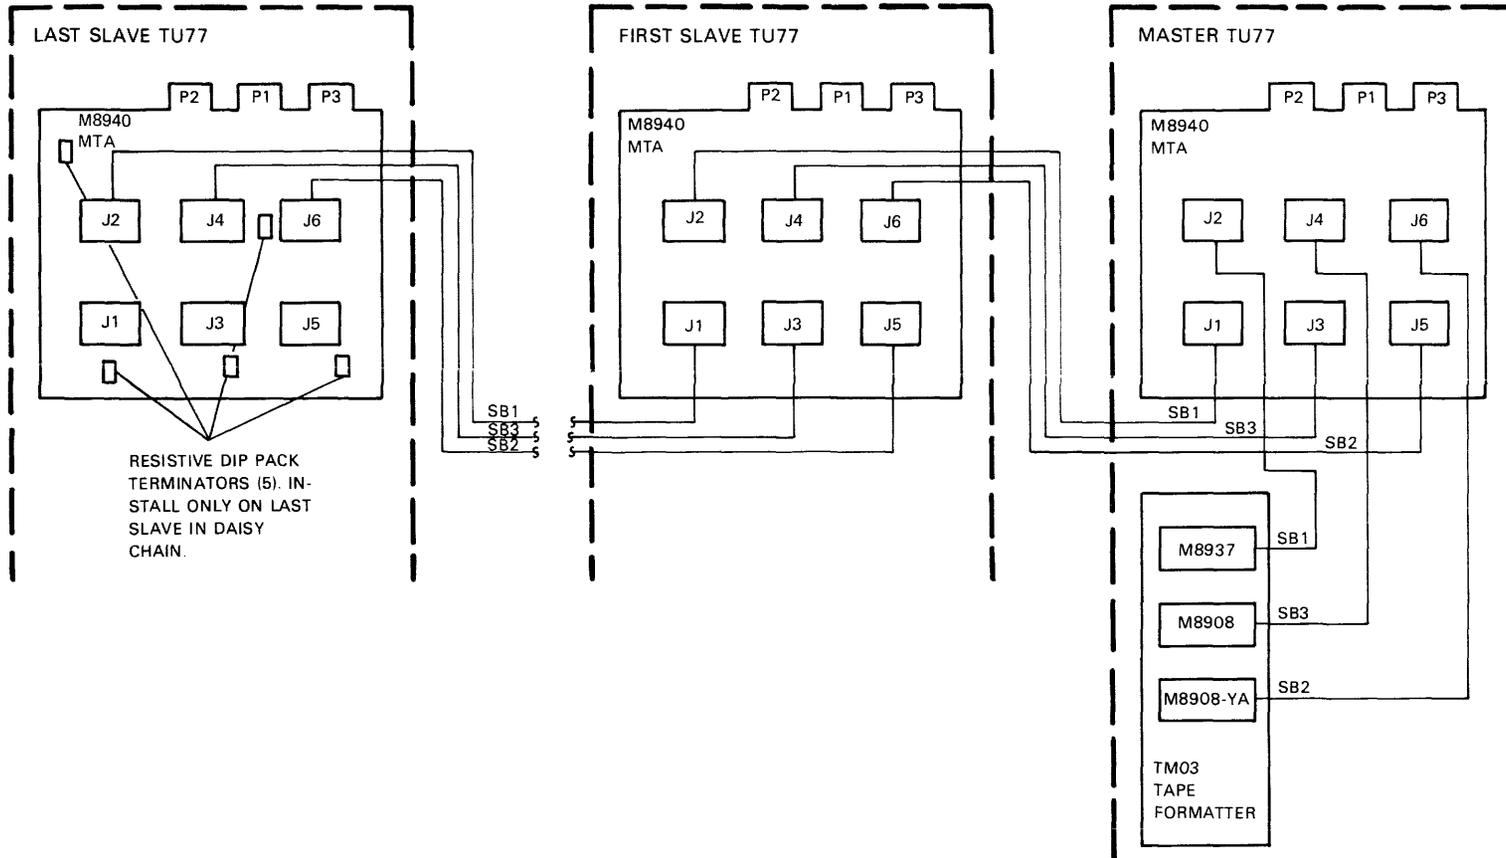
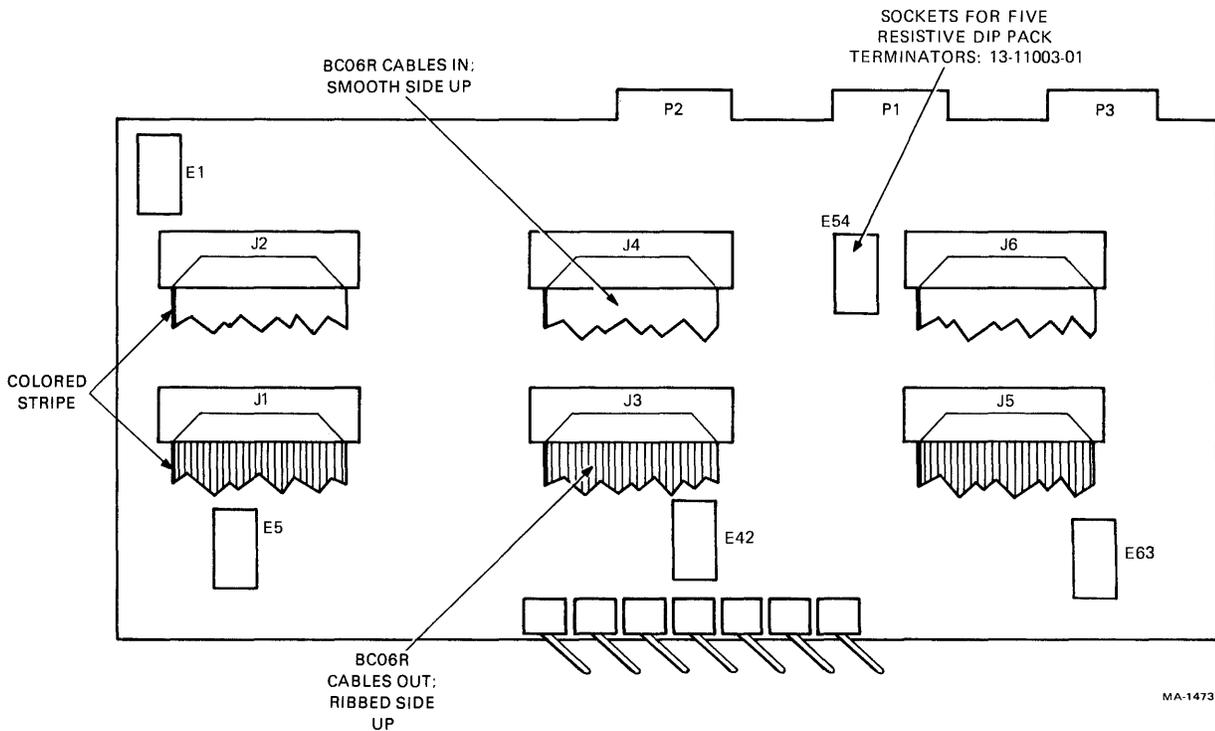

Figure 2-12 Slave Bus Cabling of TU77 Daisy Chain
Figure 2-13 Cable Orientation on M8940 MTA Module
9. Daisy chain the slave TU77s interfaced to a particular TM03 by connecting three slave bus cables from the M8940 MTA board in the master unit to the M8940 MTA board in the first slave unit and so on up to a maximum of three slave units (four transports to one TM03 tape formatter). If the system contains more than three slave units, a second TU77 master unit is required. The slave bus cabling is illustrated in Figure 2-12. The orientation of the slave bus to the MTA boards is colored stripes on the left with the smooth side up for the in cables, and colored stripes on the left with the ribbed side up for the out cables (Figure 2-13).
10. All M8940 MTA boards have five resistive dual in-line package (DIP) pack terminators (P.N. 13-11003-01) for terminating the slave bus. Remove the terminators from all except the last M8940 board of each slave bus chain. The location of the terminators are shown in Figures 2-12 and 2-13.